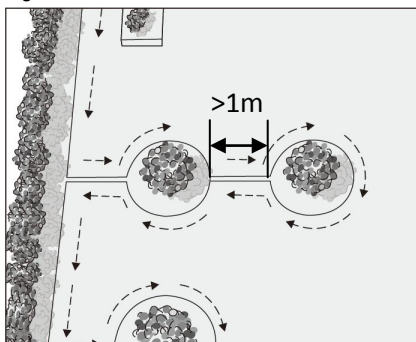

Fig.3B
- Minimum distance between islands: 1m (3.3ft). Otherwise, define jointly as one island (Fig.3B).